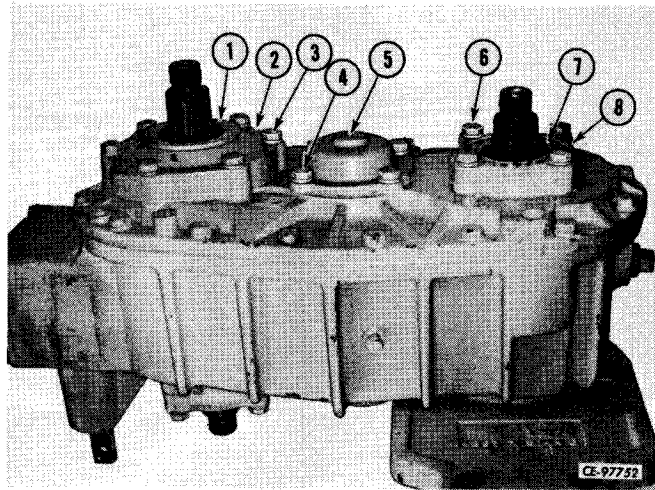

Figure 4-85
Remove cap screws and lock washers (3, 4, 6, Fig. 4-85), cage assembly (2), idler cap (5) and rear driven shaft cap (8). Tie a string around all shim packs and tag. This will aid assembly.
Install gaskets, shim packs and caps (2, 5, 8, Fig. 4-85) on case cover. Install and tighten cap screws and lock washer (3, 4, 6). Install new oil seals (1, 7).